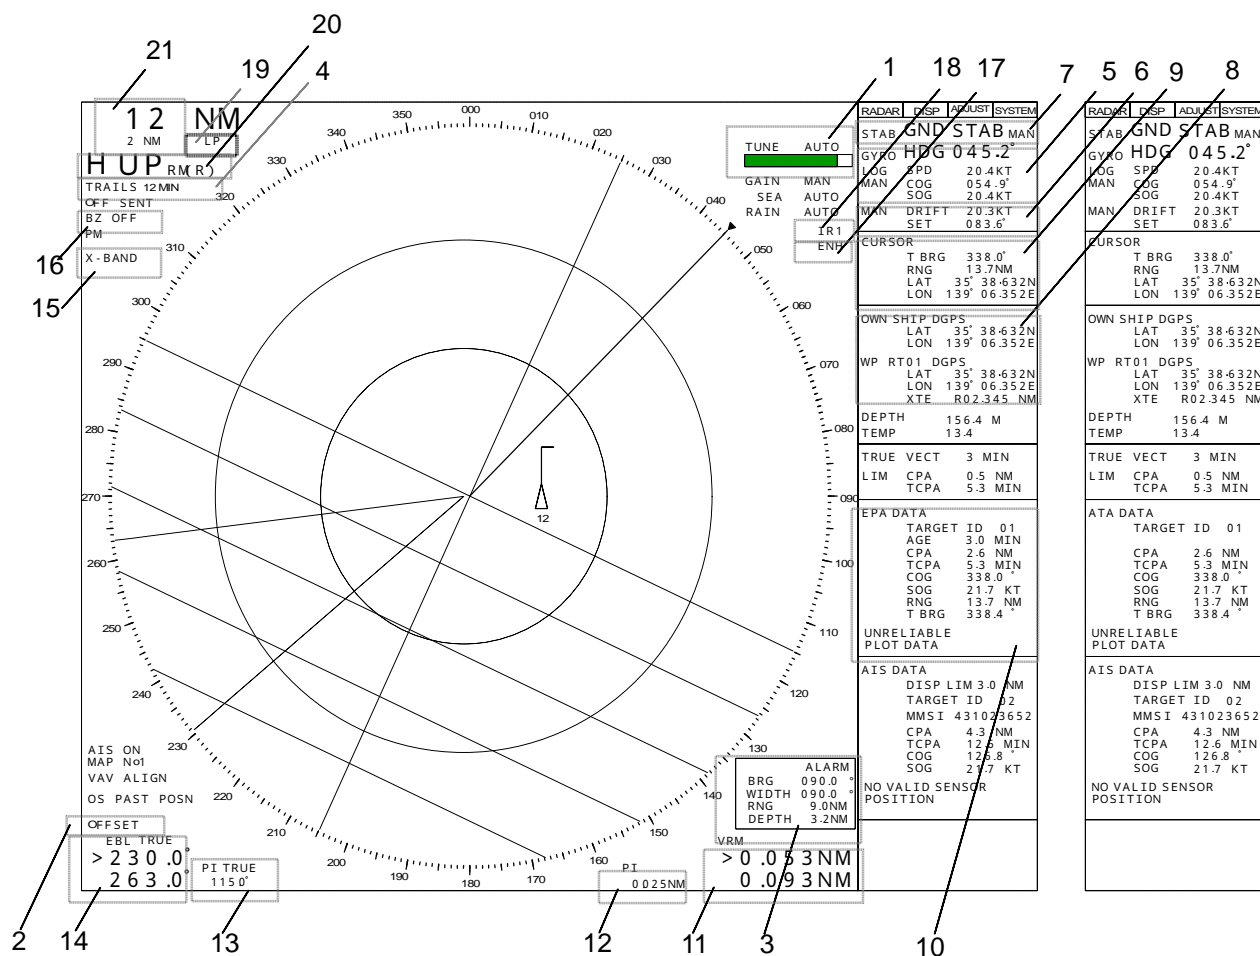

Figure 5.2 RA83/84/85/93/94/95 On-screen information
- (1) Press the POWER ON/OFF key switch. The red LED lamp lights accordingly and a 3-minute timer starts to count down. At the same time, the following information will be shown on the screen.
- (2) When the countdown timer finishes, the STANDBY sign will appear on the screen.
- (3) Press the STBY/TX key to transmit. The radar starts transmission and the radar video, alphanumeric and graphic information will be shown on the screen at a preset brilliance level. Refer to Figure 5.2 for possible screen presentation.
All available screen presentations are shown in Figure 5.2 and respective meanings are given under the illustration.